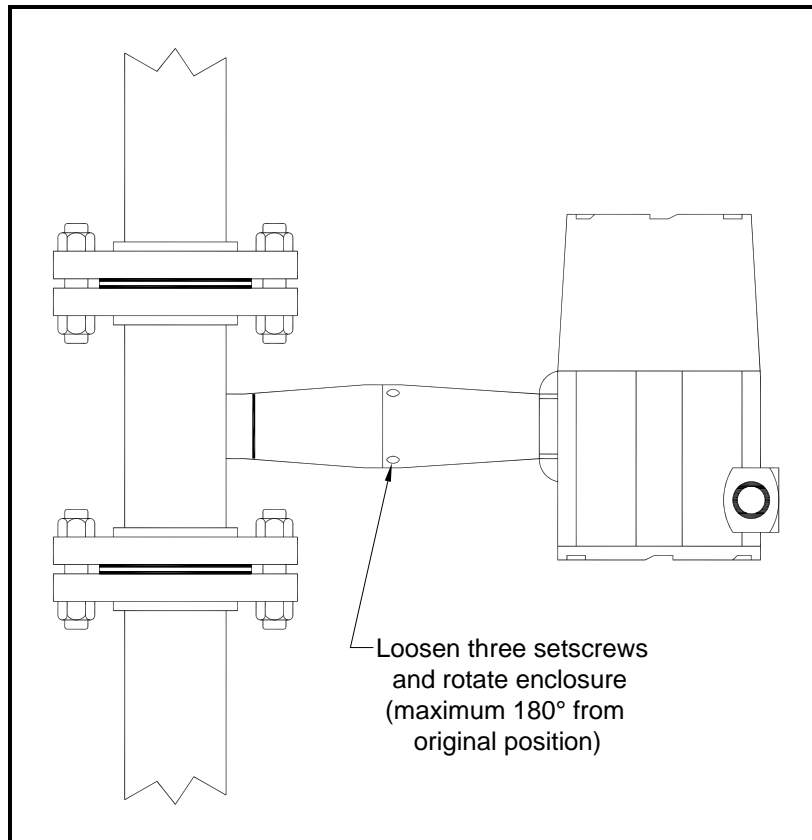

Figure 16: Enclosure Viewing Adjustment
2. Loosen the three set screws shown in Figure 16. Rotate the display to the desired position (maximum 180-degrees).